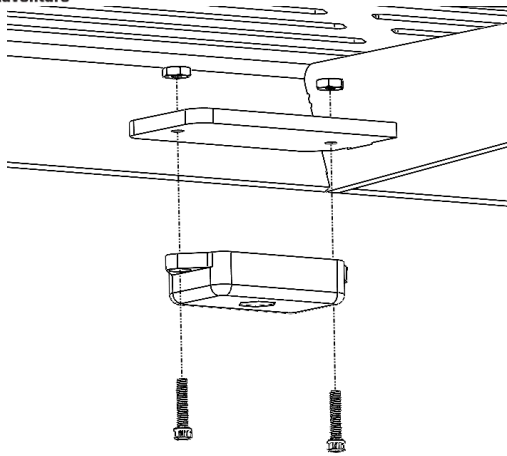

Figure 7: Rock Light Installation
13. Using the hardware provided by Baja Designs, secure the rock lights to the rock light mounting tabs as shown in Figure 7. If the hardware doesn't fit through the Rock Light Mounting Tab hole, drill it out with a 11/64" drill bit.